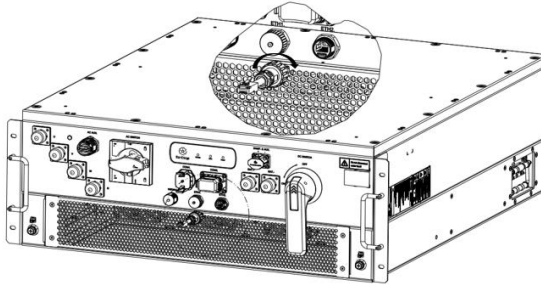

Figure 6-35 Insert the RJ45 crystal head
Step 6: Insert the RJ45 crystal head and wire end body into the board end connector, manually tighten the connecting nut clockwise with a torque of approximately 1N·m to the stop position, as shown in Figure 6-35
The parallel wiring diagram of two M100-EP units on the DC and AC sides is shown in Figure 6-35, including DC side parallel wiring, AC side parallel wiring, synchronization signal wiring, other signal wiring, and protective grounding wiring.